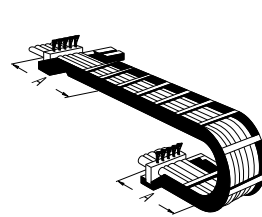

Fig. 1
- For short energy chains, fasten at both ends of the chain (→ Fig. 1)